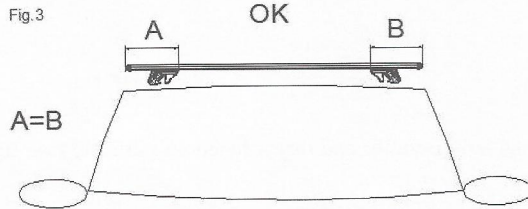

Fig.4
- . The rack must be locked on to the longitudinal mounts with the fixing devices and the screws tightened with a 6 Newton driving torque (see fig.4)